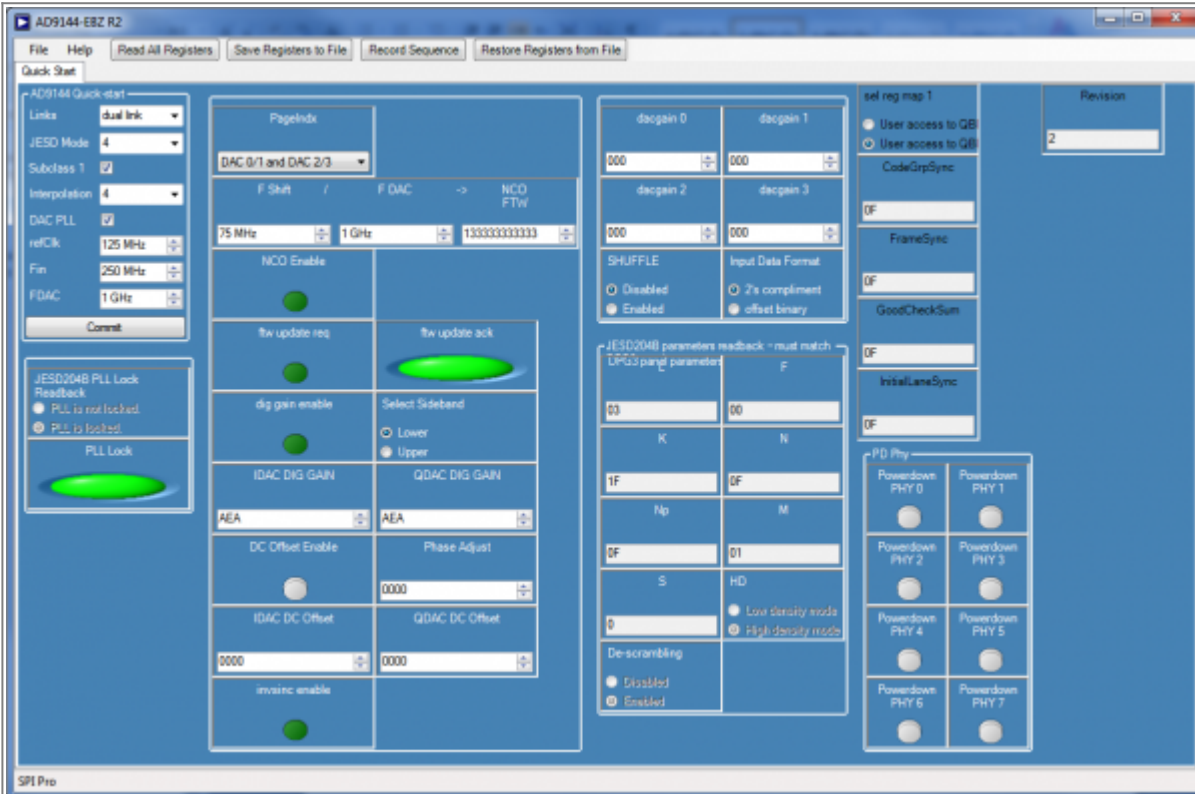

Figure 7. SPI Setting for using NCO
1. The NCO is used by loading the FDAC to 1GHz and selecting the shift frequency, for this example we will use 75MHz. The click the NCO Enable button, the NOC FTW will change from 00000 to 13333333.xt click the ftw update req button, the ftw update light should turn bring green at this pointSee Figure 7